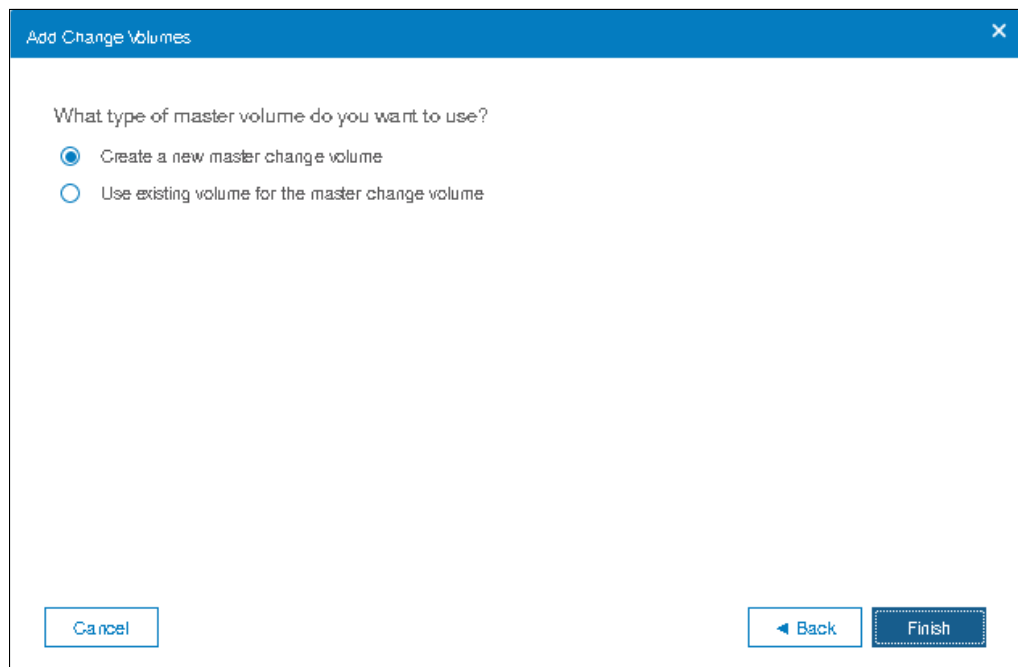

Figure 10-119 Master change volume selection
- f. Select whether you want to create a new master change volume or use an existing one as shown in Figure 10-119.